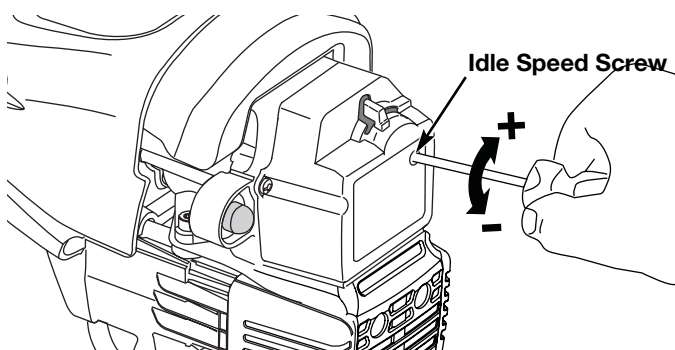

Fig. 31
The idle speed of the engine is adjustable through the air filter/muffler cover (Fig. 31).
- Release the throttle trigger and let the engine idle. If the engine stops, insert a small phillips screwdriver into the hole in the air filter/muffler cover (Fig. 31). Turn the idle speed screw in, **clockwise**, 1/8 of a turn at a time (as needed) until the engine idles smoothly.